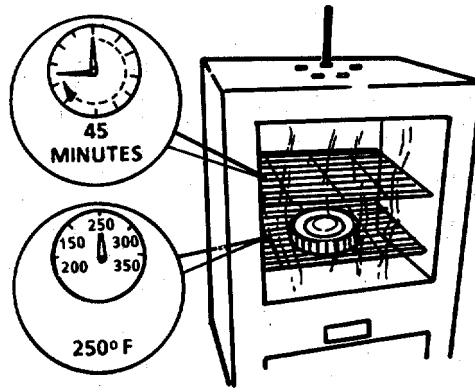

FIGURE 4-67. Heating Crankshaft Gear.
- b. Use a heavy duty puller to remove the spur gear (1) as shown in FIGURE 4-67.
- c. Heat the crankshaft gear for 45 minutes at 250°F (121°C) as shown in FIGURE 4-67.